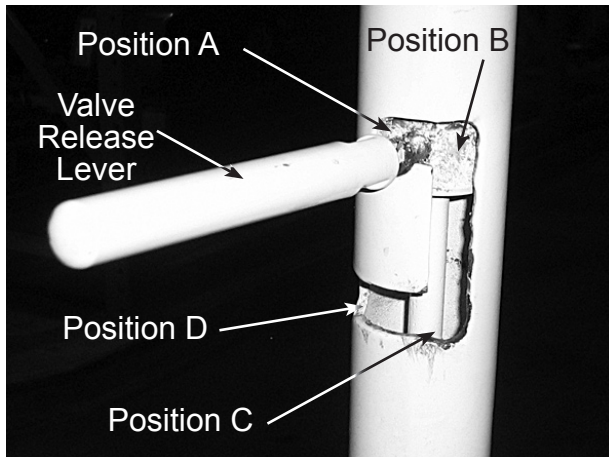

Fig 2
- c. Avoid accidental lowering when under load. Ensure that the Handle Lever (1.4) is secured at Position A. (See Fig. 2.)
3. Check to make sure the Saddle (7.1) is fully lowered. If not, move the Handle Lever (1.4) to Position D. (See Fig. 2.)
- a. Once the Jack's Lift Arm (7.6) is fully lowered, move the Handle Lever (1.4) to Position A. (See Fig. 2.)
1. Moving the Valve Release Lever (1.4) to the desired position. (See Fig. 2.)
3. *Slowly* move the Handle Lever to Position D to lower the vehicle to the ground. (**See Fig. 2.**)
- a. Move Valve Release Lever to lower the Saddle to Position D. The Lever must remain here to keep the pressure Release Valve open. **(See Fig. 2.)**
- j. Let the Handle Lever (1.4) return to Position C, allowing the pressure valve to close. **(See Fig. 2.)**